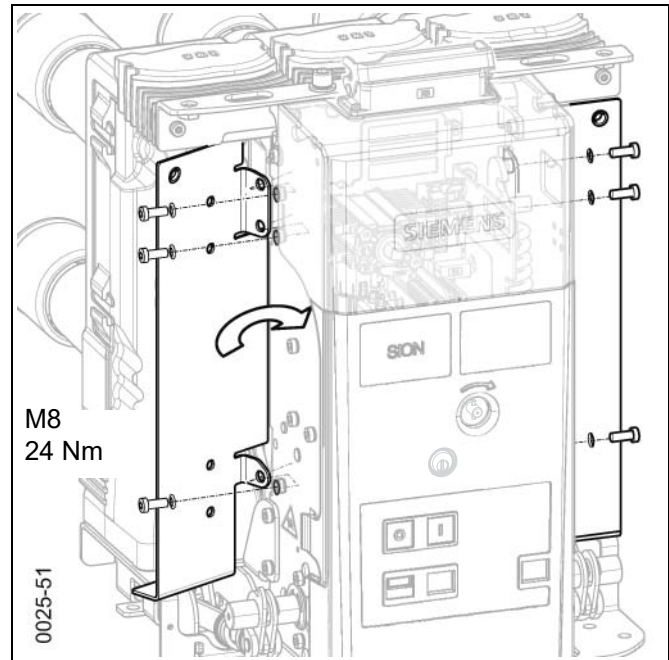

Fig. 64 Mounting divided protective plates on both sides (optional, only for 31.5 kA and distance between pole centres 150/160 mm)
- Fig. 64: Mount the protective plates (63) on both sides.